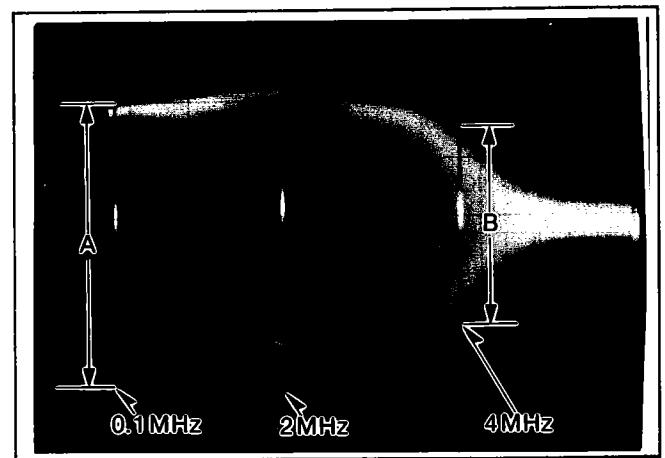

Figure E12
5. Adjust VR3302 until the B level (4MHz) is -3.1 ± 1 dB (60 to 80 percent) of the A level (0.1MHz) as shown in Figure E12.